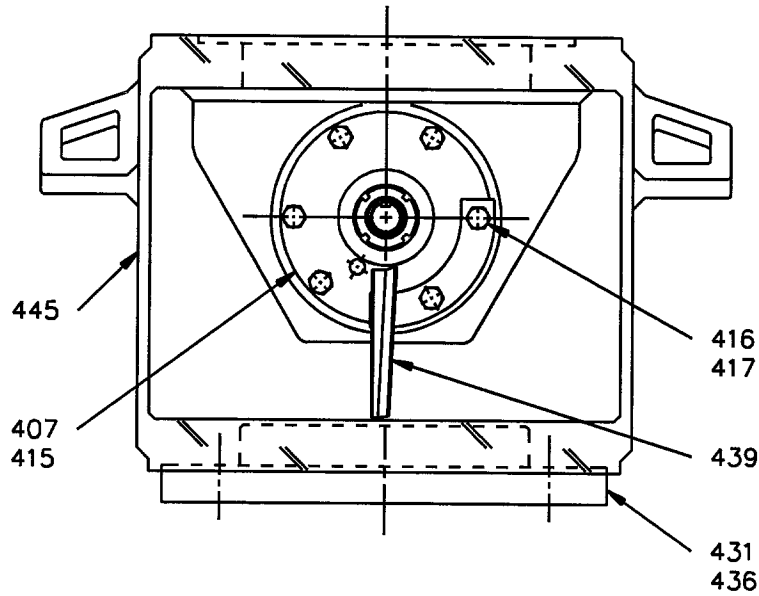

Figure 32: Lube Trough Installation
- Install lube trough [439] (Figure 32, page 75). Install bolts and lockwashers [416, 417] and torque bolts according to the values shown in Table 17 (page 65).